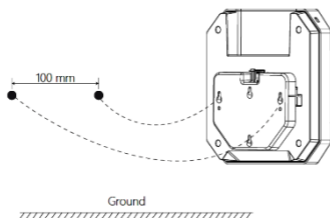
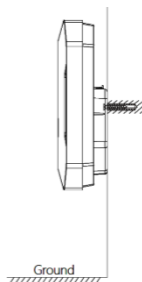

Figure 11
Figure 12
7. Align the bottom holes of mounting bracket with the mounting screws (see Figure 11). After inserting push down on the AP until it is secure (see Figure 12). The installation is complete.